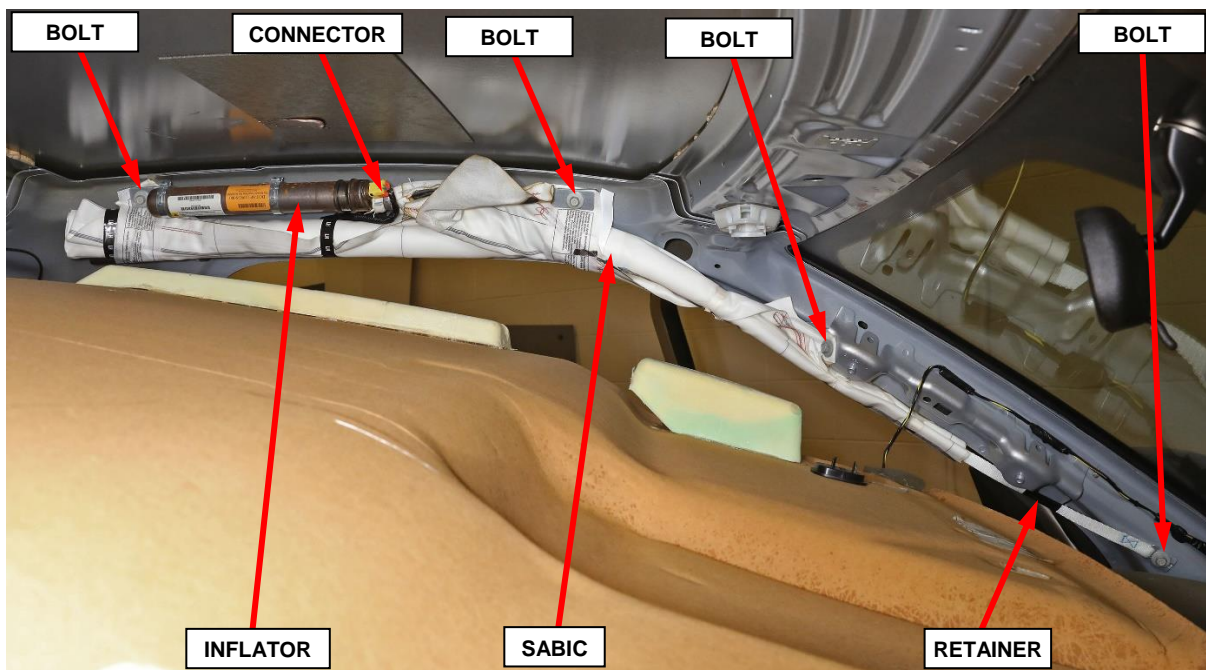

Figure 11 – Headliner
17. Carefully lower the headliner allowing it to rest on the seat backs and instrument panel (Figure 11).